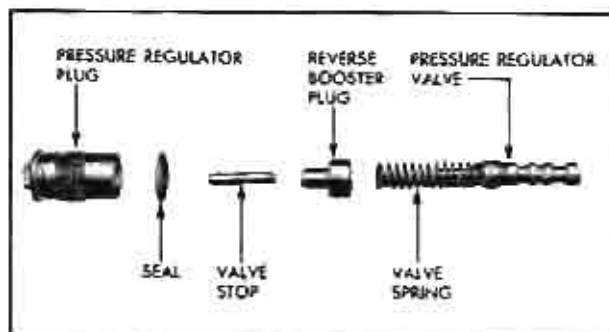

Fig. 144 Pressure Regulator Parts—Exploded
1. Inspect pressure regulator valve (Fig. 144) for nicks or scores and free movement in pump body,
1. Install new "O" ring seal on pressure regulator plug (Fig. 144).